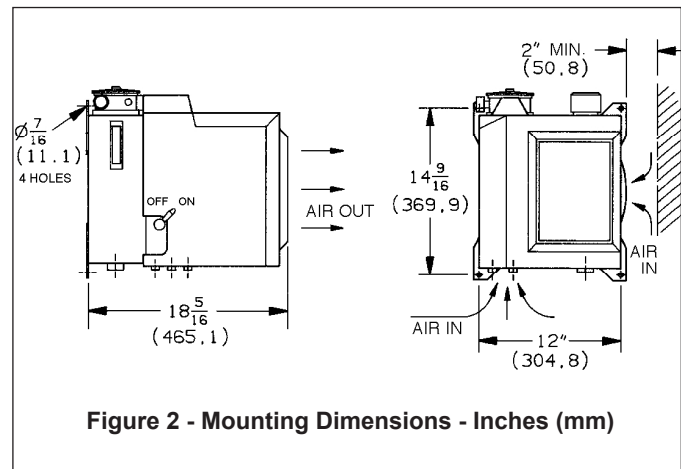

Figure 2 - Mounting Dimensions - Inches (mm)
1. Position the Hydrive so that the filler cap, sight glass and ON/OFF valve are all accessible, and that the cooling points are not restricted (see Figure 2). Do not obstruct the front of the Hydrive (where air exits).